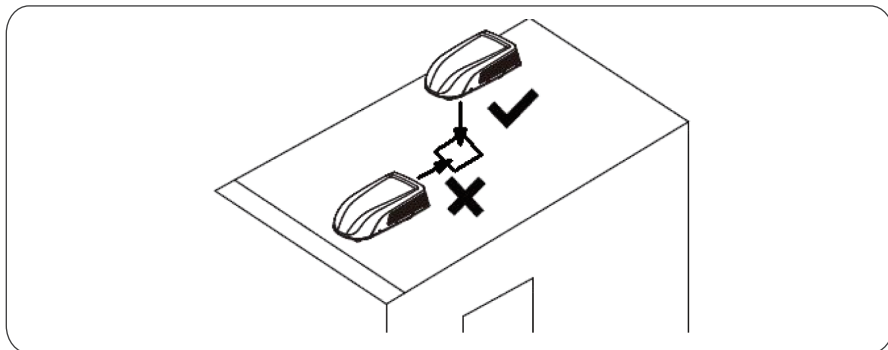

Figure 4
- Lift the outdoor unit and then place the outdoor unit in the roof of the vehicle. Do not drag the outdoor unit. Otherwise, the seal may fall off (see Figure 4).